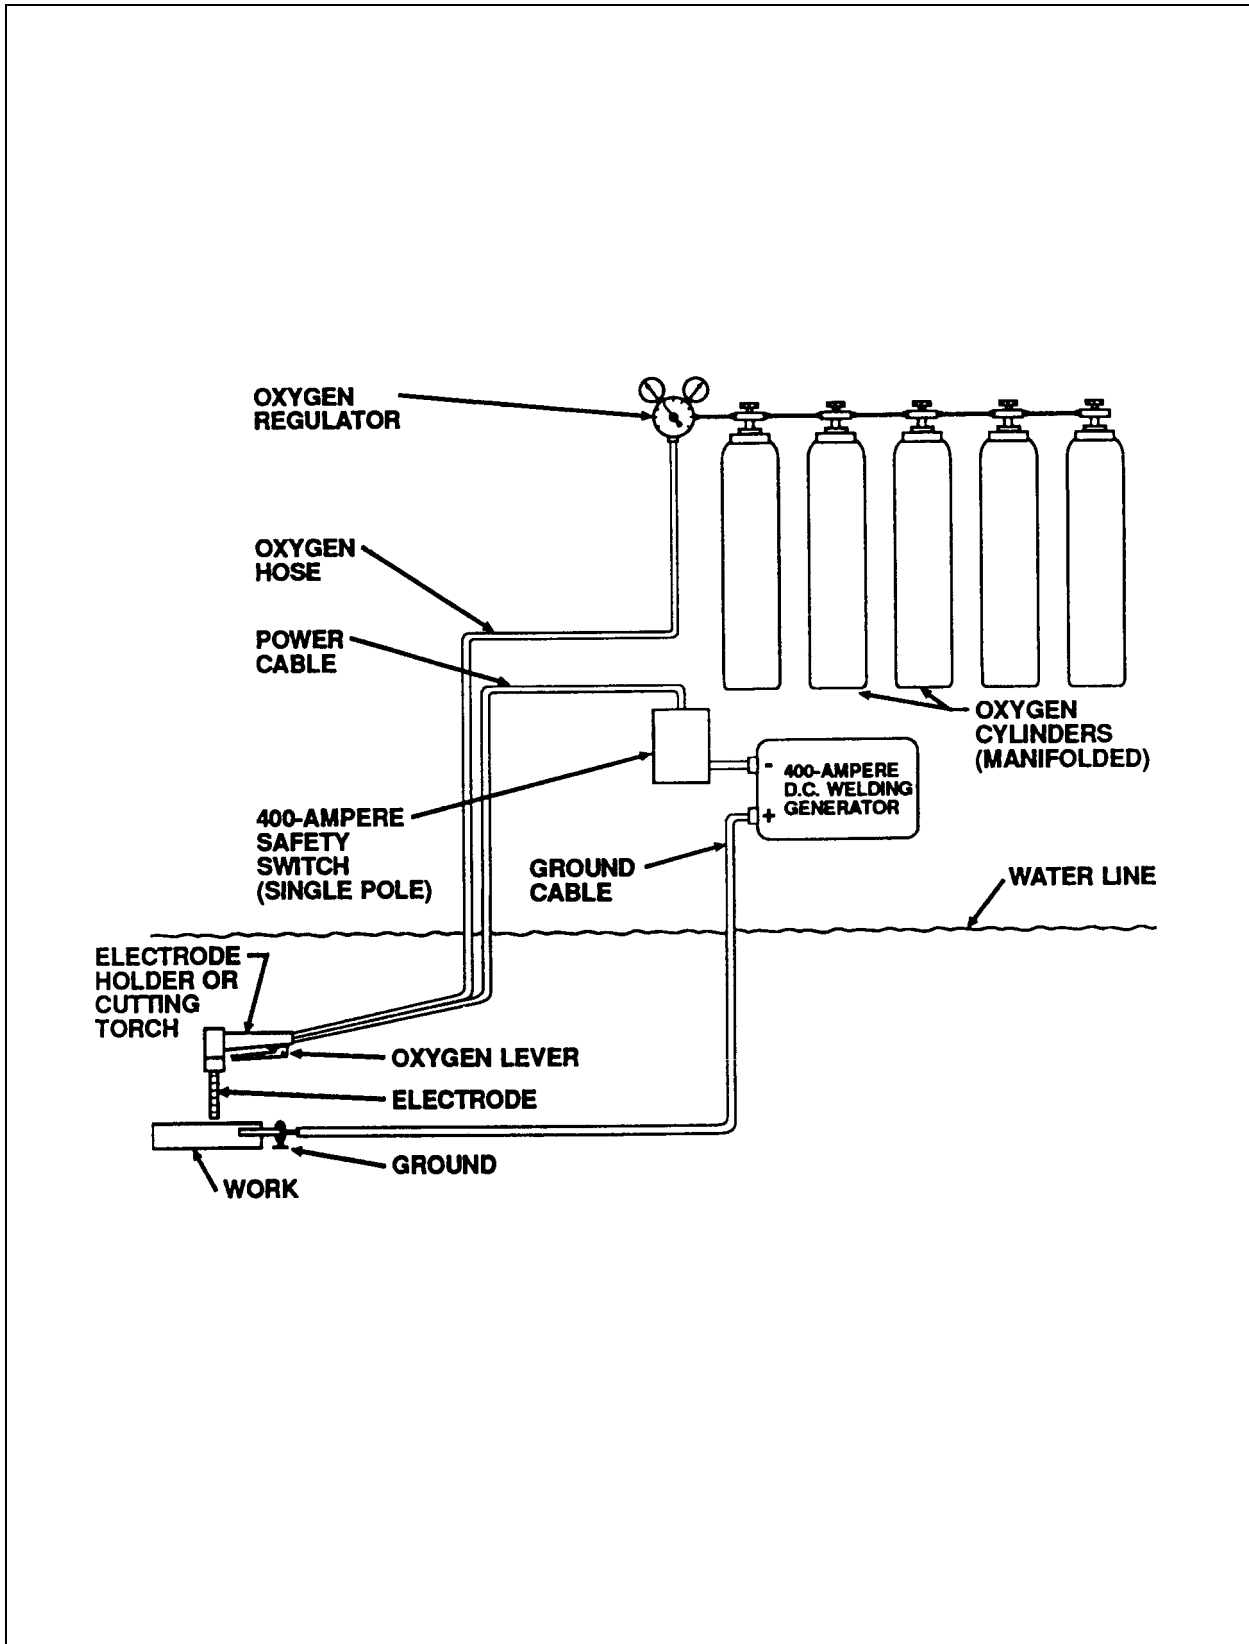

Figure 4-1. Typical Arrangement of Underwater Arc Cutting Equipment.
**4-2.1 Oxygen-Arc and Shielded Metal Arc Equipment.** Underwater oxygen arc cutting and shielded metal arc cutting and welding are performed with basically the same equipment. A typical arrangement of this equipment is illustrated in Figure 4-1; additional accessories not shown include scrapers and wire brushes which are used for both underwater cutting and welding operations. The equipment is also listed in Table 4-1.
**4-2.4 Safety Switches.** A safety switch, also referred to as “knife switch” and disconnect switch, is required in the electric circuit to protect the diver from electric shock when not cutting or welding. A typical four-pole safety switch used with underwater cutting and welding equipment is shown in Figures 4-1 and 4-8. When a single-pole knife switch is used, it should always be located in the welding-lead side of the electric circuit and must be rated to handle the maximum welding current. Additionally, the safety switch must be mounted vertically on a non-conducting (wood, plastic, etc.) stand. The safety switch has an open circuit potential of some 80 volts across the poles. To prevent accidental contact, the switch should be fitted with a non-conducting slotted cover.